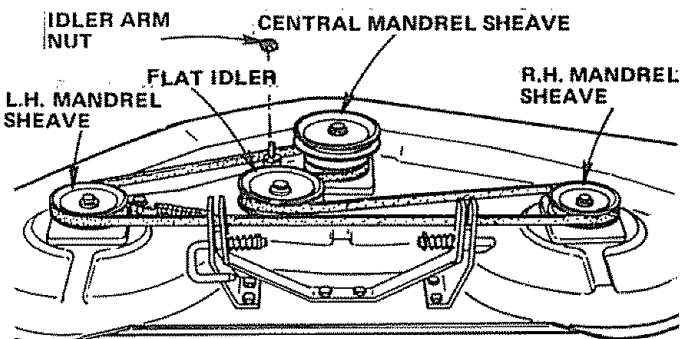

FIGURE 30
6. Check Deck Idler Arm Assembly and Flat Idler to see that they rotate freely (Fig. 30).
7. Be sure spring is hooked in Deck Idler Arm Assembly and on bolt in Mower Housing (Fig. 30).
8. Install new Belt in groove of L.H. Mandrel Sheave, lower groove of Center Mandrel Sheave and around Flat Idler as shown (Fig. 30).
9. From a position at discharge end of mower, roll Belt into groove of R.H. Mandrel Sheave (Fig. 30).